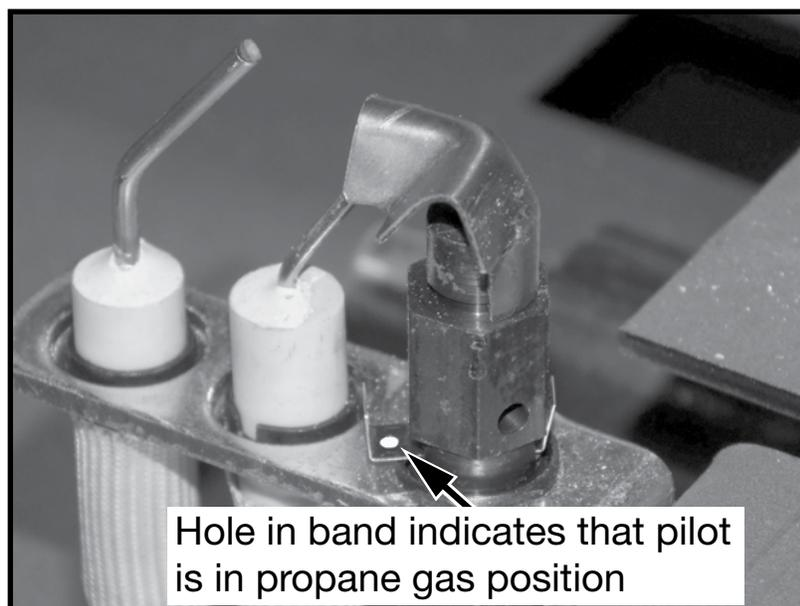

Figure 40: Pilot band in propane gas position.
- Slide the pilot adjustment band over (Figure 40) and ensure that the hole in the orifice band is showing.